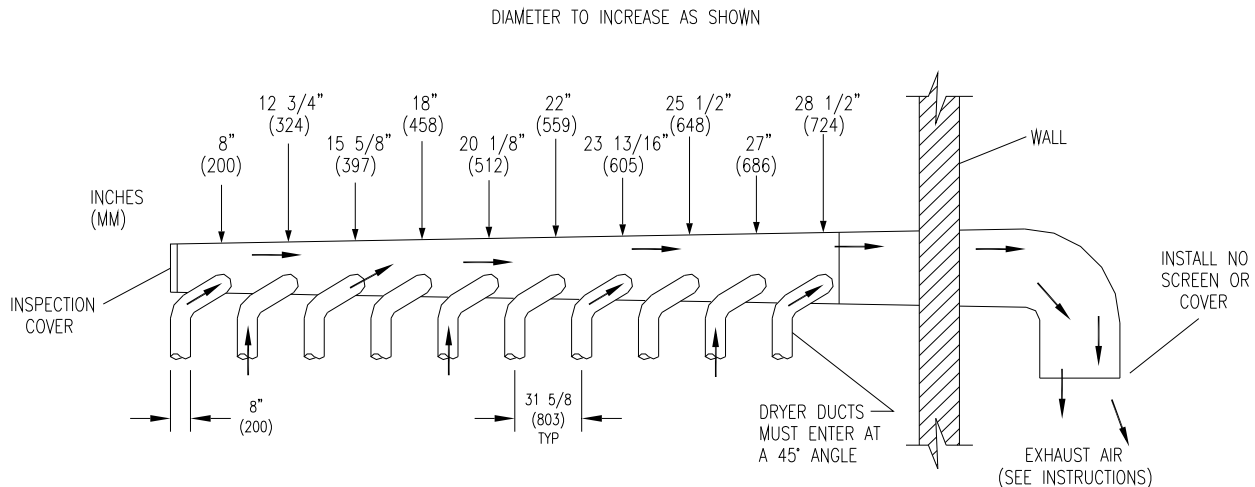

FIGURE 3- Dryer Exhausting Using A Main Discharge Duct.
7. **EXHAUST INSTALLATION.** (Refer to Figure 3 at the end of section 7.) Exhausting of
Installation of several dryers, where a main discharge duct is necessary, will need the following considerations for installation (see Figure 3). Individual 8" ducts from the dryers into the main discharge duct should be at a 45-degree angle in the direction of discharge airflow.
**NOTE:** Never install the individual 8" ducts at a right angle into the main discharge duct. The individual ducts from the dryers can enter at the sides or bottom of the main discharge duct. Figure 3 indicates the various round main duct diameters to use with the individual dryer ducts. The main duct can be rectangular or round, provided adequate airflow is maintained. For each individual dryer, the total exhausting (main discharge duct plus duct outlet from the dryer) should not exceed the equivalent of 14 ft (4.27m) and two elbows. The diameter of the main discharge duct at the last dryer must be maintained to exhaust end.